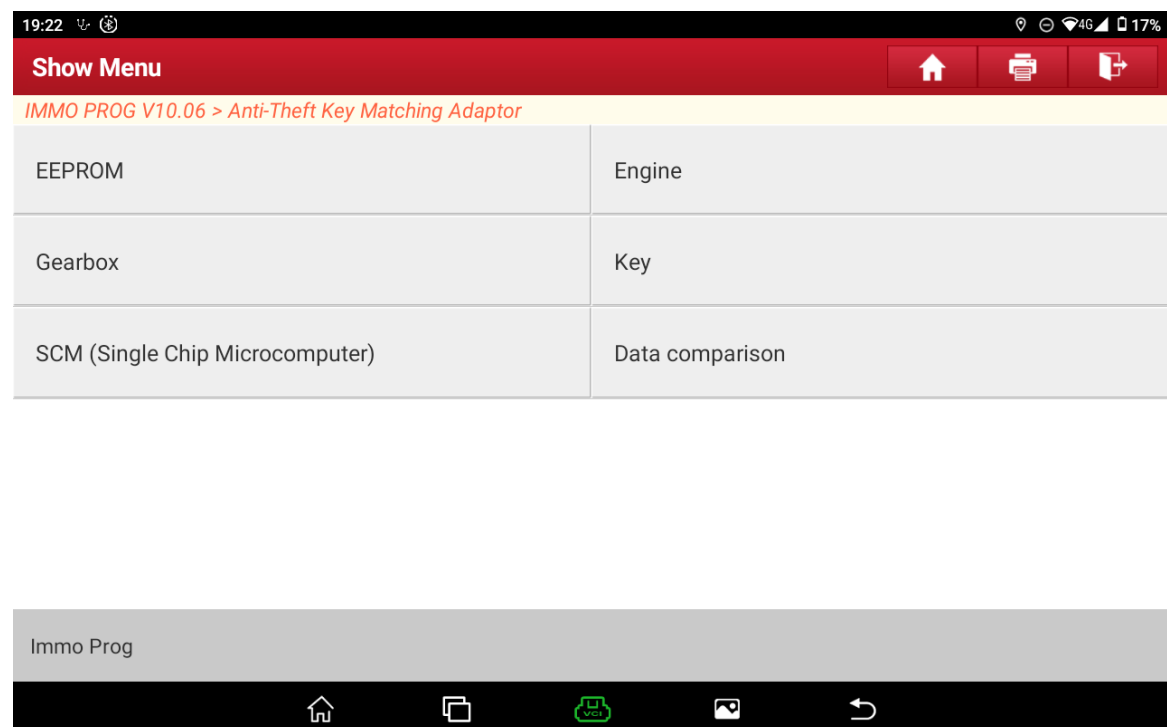

Figure 17
10. The gearbox clone has been basically completed, but in order to determine whether the data of the original car gearbox has really been written to the external gearbox, click [Backup complete data] to back up the data of the external gearbox. Click [Disconnect] and then click the back icon to return to the page shown in Figure 17.